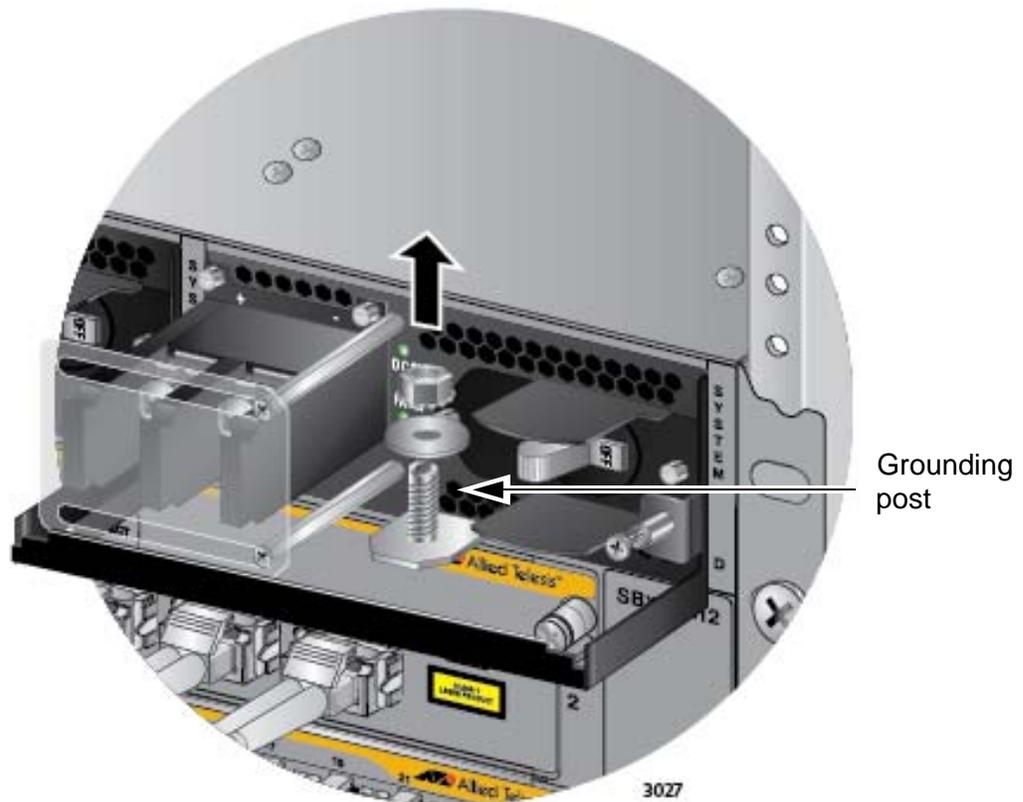

Figure 115. Removing the Nut and Washer from the Grounding Post
3. Use an 8 mm wrench to remove the grounding post nut and washer, shown in Figure 115, from the power supply.
2. Use an 8 mm wrench to remove the grounding post nut and washer, shown in Figure 115 on page 185, from the grounding post on the power supply.